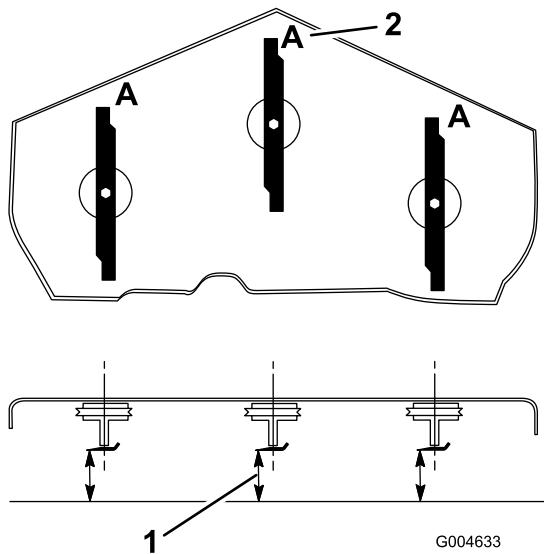

Figure 72
- Rotate the blades until the ends face forward and backward (Figure 72). Measure from a level surface to the cutting edge, position A, of the blades (Figure 72). Note this dimension.